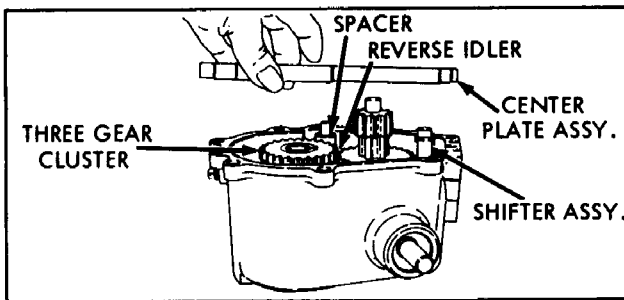

Figure 2-14
4. Insert the washer and then the three gear cluster assembly. (Fig. 2-14).
7. Place new gasket on case and install center plate. (Fig. 2-14).